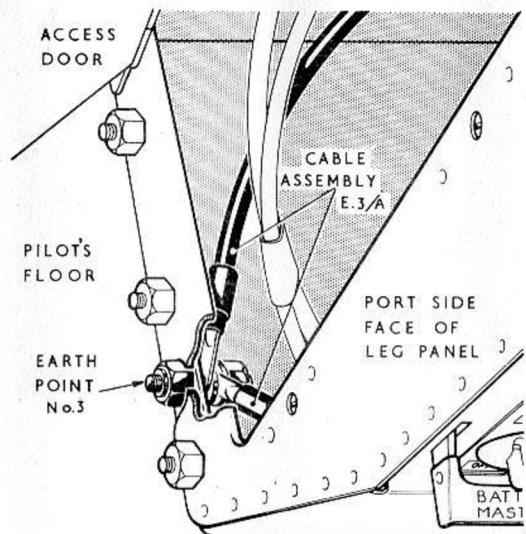

FIG.3 EARTH POINT No.3
- (5) Disconnect cable assembly E3/A from earth point 3, obtaining access via the hinged door in the port side of the leg panel (fig.3).
- (6) Disconnect all the plugs and sockets on the cable assemblies at the leg panel. Seal off the plugs and sockets with approved caps and covers and stow the cable assemblies away from the panel.
- (7) Release the leg panel from its mountings by removing the nine bolts from around the bottom forward, and side faces of the panel. Remove the leg panel from the cabin, complete with cable assemblies F31 and E3/A.